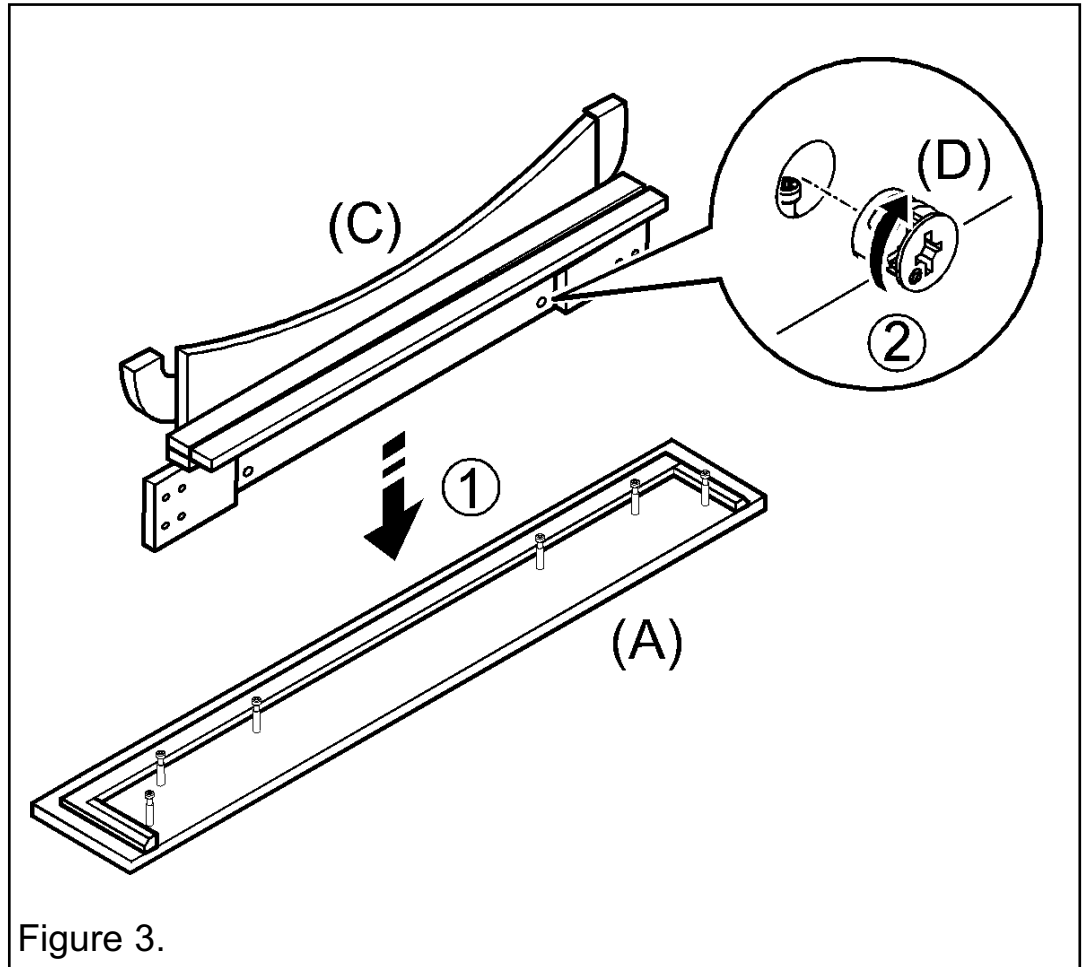

Figure 3.
- Locate the fascia (C) onto the cam bolts in surround top (A) as in figure 3.
- Secure in place using two cam locks (D) as in figure 3.